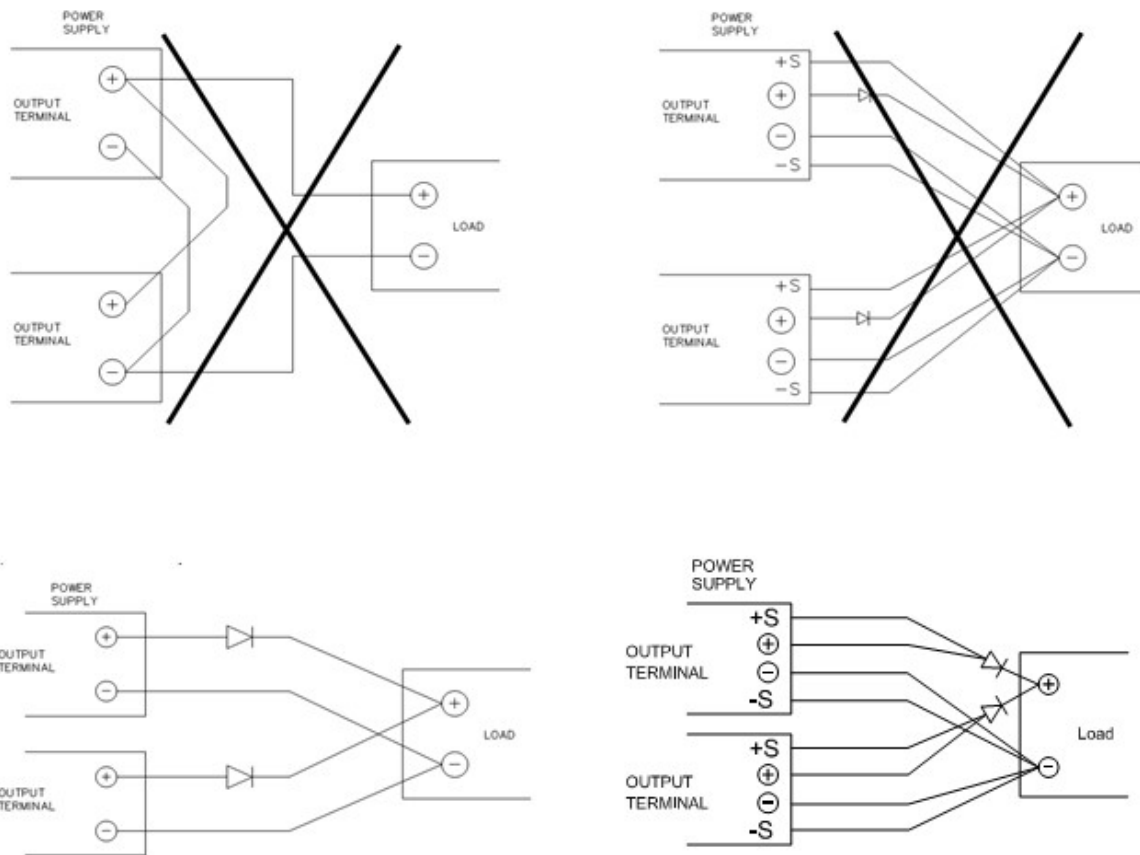

Fig. 11-3 Parallel for Redundant Operation
- Remote sense cannot compensate for the voltage drop across the oring diodes. To maximize the compensation during redundant operation, attach the oring diodes as close as possible to the point of load and attach +S to the anode of the associated oring diode (See Fig. 11-3).